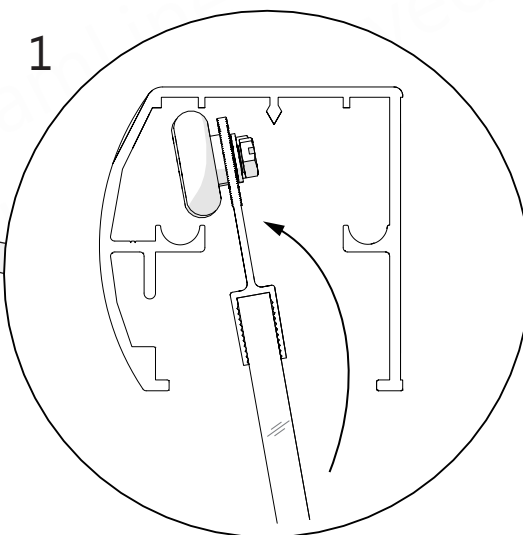

Fig 7
**Important:** Place both glass doors in the rear of the shower opening, **Inside Door Glass (#08)** first, followed by the **Outside Door Glass (#09)**. **Be careful to protect the edges of the glass.** Cushion the underside of the glass and between the two glass doors. Be sure that both glass doors and **Roller Wheels (#11)** are oriented in the correct position for installation. **Fig 7**